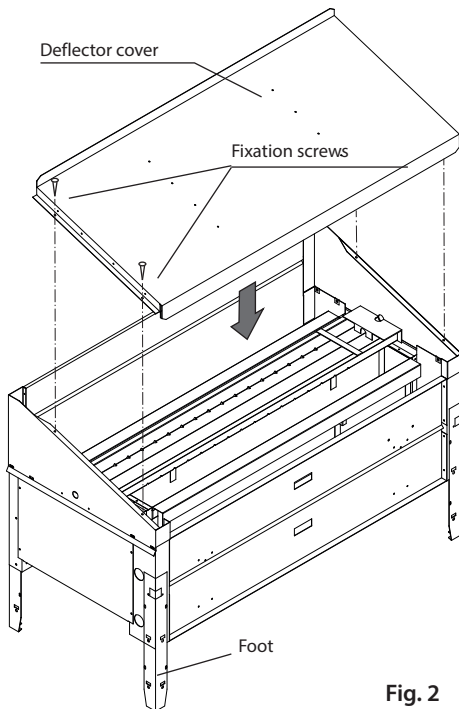

Fig. 2
- Unscrew 4 screws on both sides of the deflector cover (see Fig. 2).
- Insert the feet on all corners into the corresponding grooves and fasten with 3 screws (see Fig. 2).